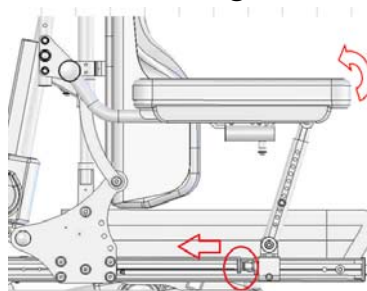

Figure 5-65
5.3.4.2.14 By pulling the lock pin and turning it in 90 degree, the armrest can be lifted backwards. (Figure 5-65)